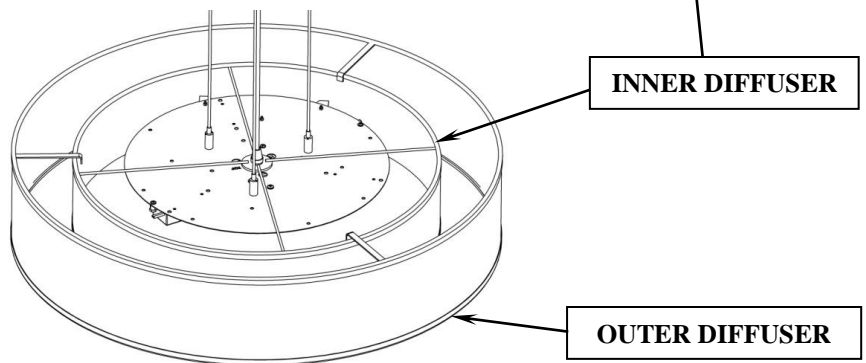

FIG 4
- A. Inner diffuser (18) is assembled with pipe nipple (14), nut & washer (17) and is part of the fixture assembly to be mounted. When fixture is mounted, the outer diffuser sits atop the inner diffuser by 3 hooks as shown in Fig. 4.
- B. Install white lens by inserting it at a slight angle inside the inner diffuser. Level it out with the shade and lower it down. Lens is supported by inner diffuser. Complete diffusers and lens installation as shown in Fig 4 & 5.